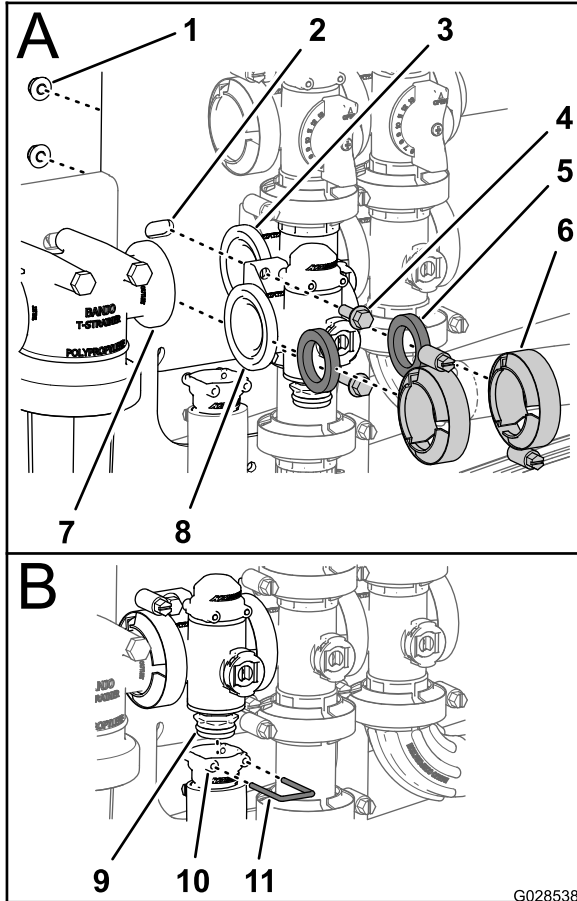

Figure 96
1. Align a 1 gasket between the flanges of the rate control valve manifold and the pressure filter head (A of Figure 96).
4. Assemble the rate control valve manifold, gasket, and agitation valve manifold with a clamp tightened hand tight (A of Figure 96).
5. Assemble the rate control valve to the valve mount with the 2 flanged-head bolts and 2 flanged locknuts (A of Figure 96) that you removed in step 3 of Removing the Rate Control Manifold Valve (page 68) and torque the nut and bolt to 1017 to 1243 N-cm (90 to 110 in-lb).
6. Assemble the outlet fitting onto the lower endcap fitting of the manifold valve (B of Figure 96).
7. Secure the endcap fitting to the outlet fitting by inserting a retainer into the socket of the outlet fitting (B of Figure 96).
2. Assemble the rate control valve manifold, gasket, and pressure filter head with a clamp tightened hand tight (A of Figure 96).
3. Align a 1 gasket between the flanges of the rate control valve and the agitation valve manifold (A of Figure 96)